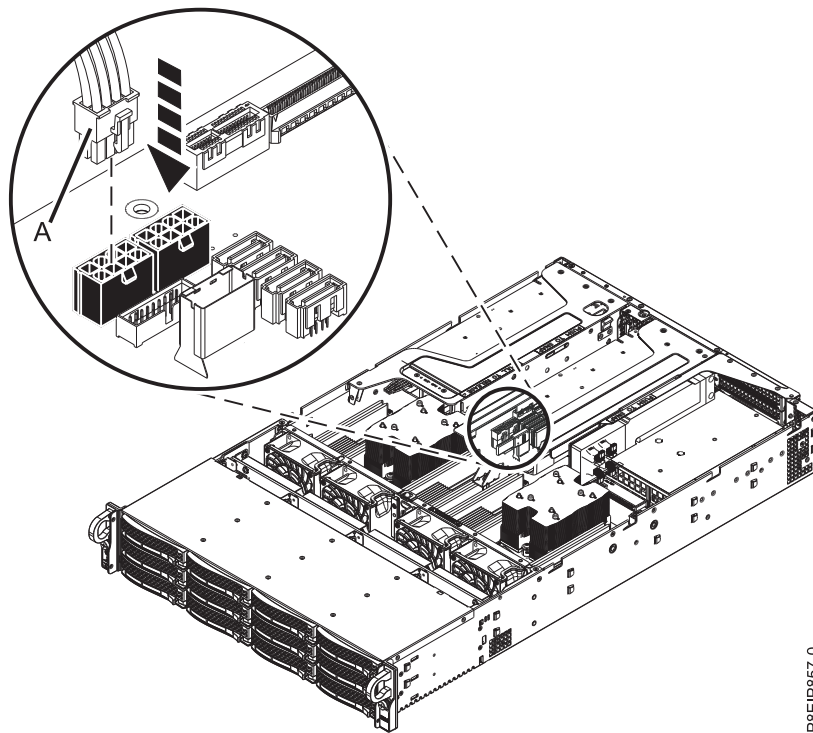

Figure 57. Plugging in the GPU power cable
- d. If position 5 contains a GPU, plug the GPU power cable (A) into the system backplane as shown in Figure 57.